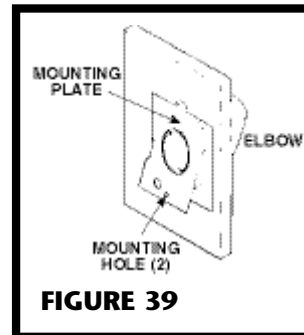

FIGURE 39
3. Refer to Figure 39. Glue elbow to mounting plate, place assembly into cutout, and attach elbow to tubing inside the wall.